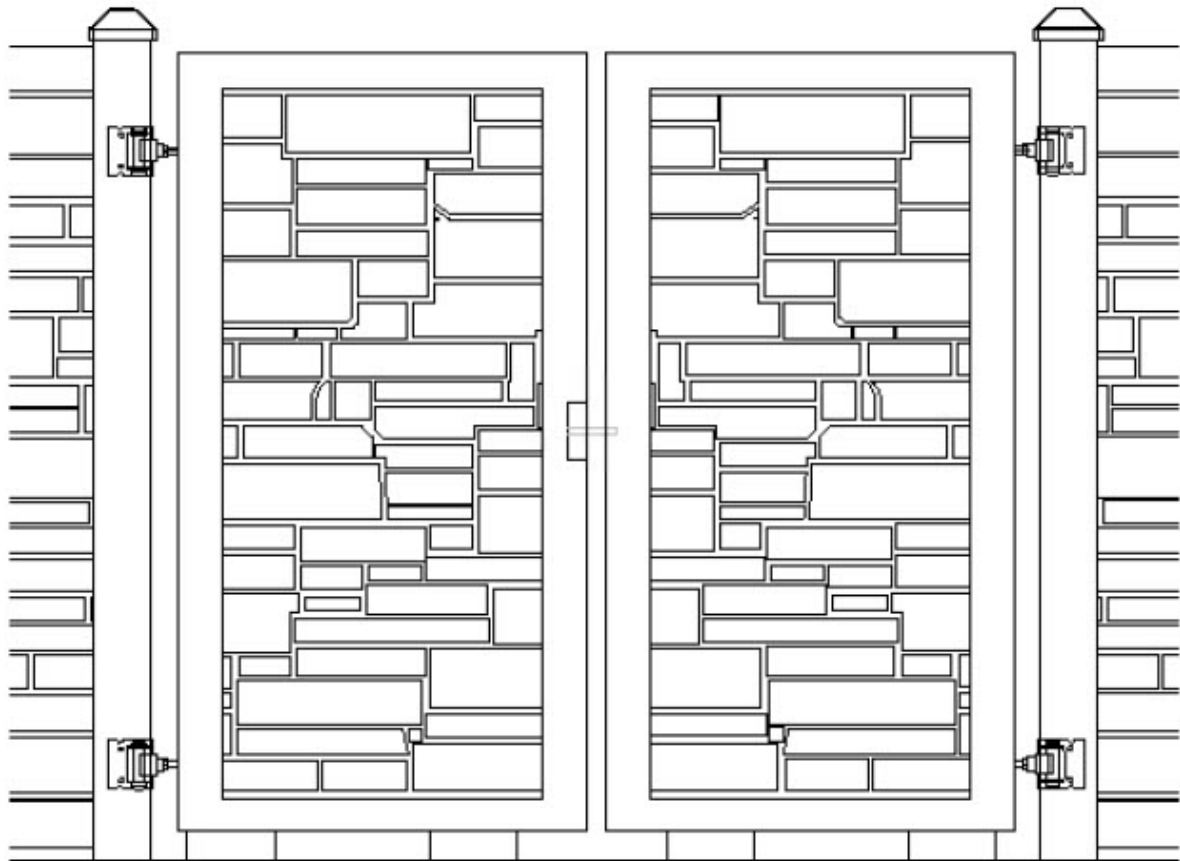

Fig. 16
2. Check if gate is level. Use wooden blocks to make sure gates are level (see Fig. 16), then install the hinges to the gate post with provided screws.